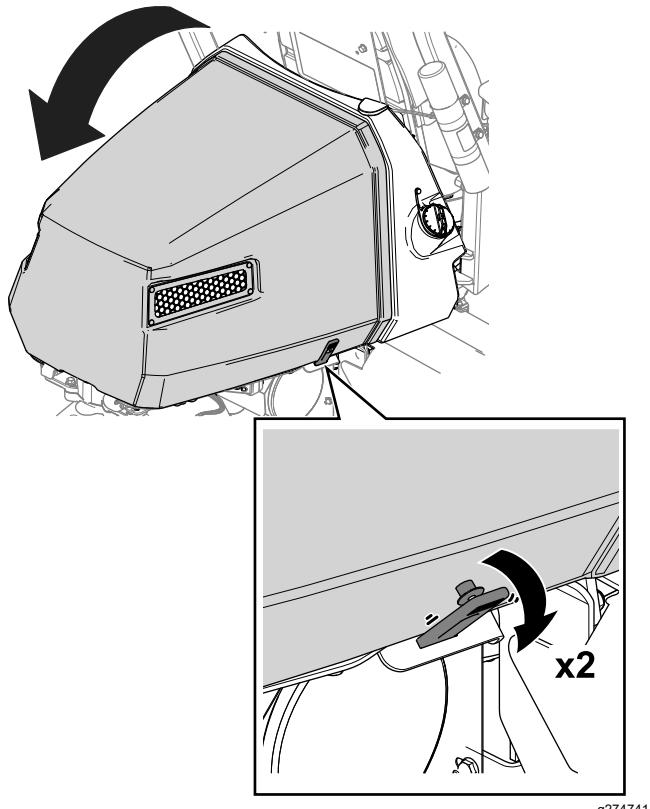

Figure 37
1. Release the straps from each side of the hood (Figure 37).
2. Raise the hood (Figure 37).